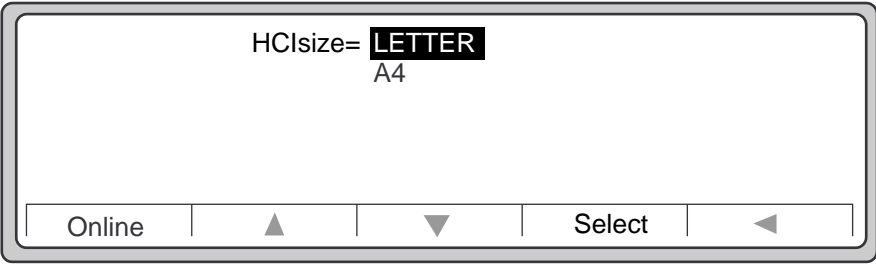

Figure 4-14 HCIsize Screen
- 3. Press the **right arrow** to go to the **HCIsize** screen shown in Figure 4-14.